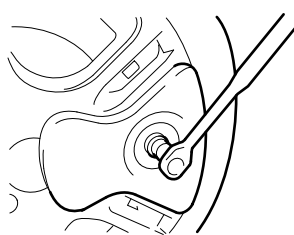

Fig. 6
- Tighten the locking bolt socket using the wheel spanner provided (or torque wrench as shown) to wheel torque. (Fig. 6)